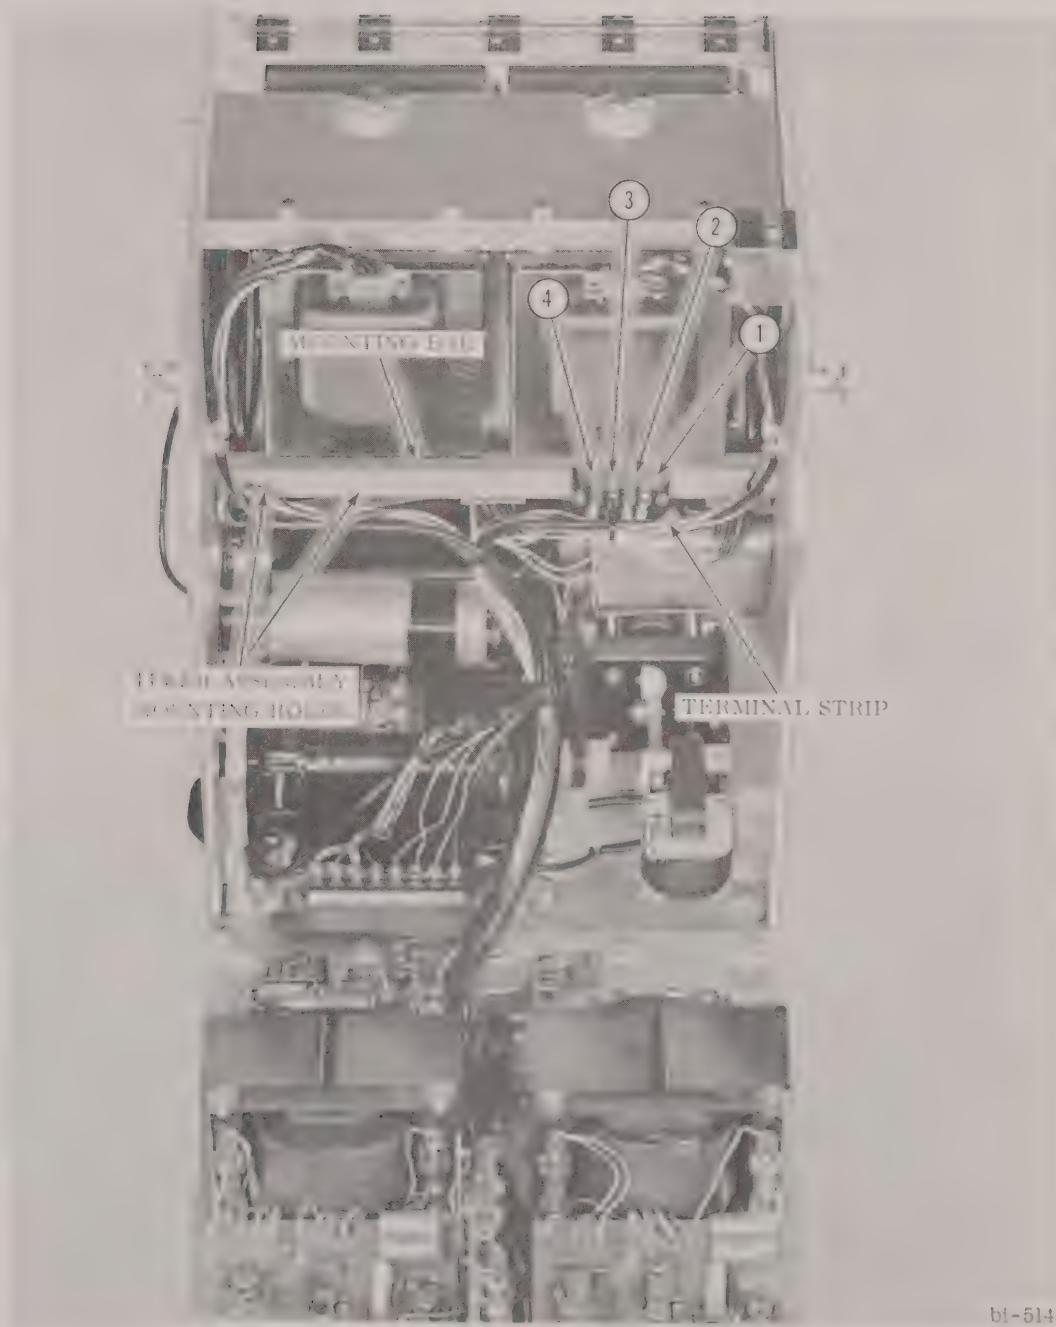

FIGURE 6-10 OPTIONAL TIMER ASSEMBLY MOUNTING LOCATION
2. Install timer assembly on mounting bar (Fig. 6-10) with two screws and lockwashers provided with timer.
3. Connect four leads from timer assembly to terminal strip on mounting bar (Fig. 6-10) as follows: